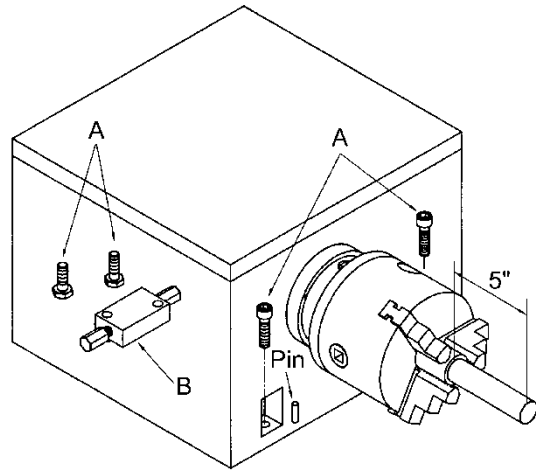

Figure 25
- If the measurements are not the same and adjustment is required, loosen hex socket cap screws (A, Fig. 25) which holds the headstock to the bed. **Do not** loosen completely; some drag should remain.
- Adjust two screw nuts (B, Fig. 25) located on the endgear side of the headstock. Loosen one and tighten the other. Make another cut. Keep adjusting screw nuts after each cut until the bar stock measurements are the same. Tighten all headstock screws.